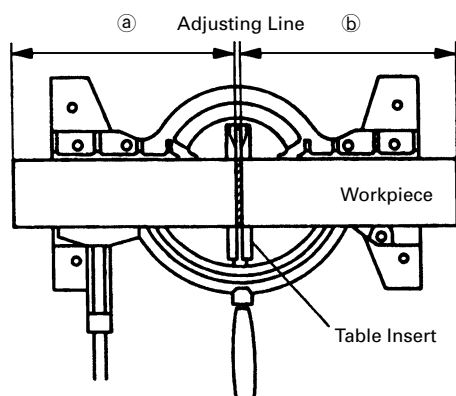

Fig. 15
- (1) As shown in Fig. 15 the width of the saw blade is the width of the cut. Therefore, slide the workpiece to the right (viewed from the operator's position) when length ⑥ is desired, or to the left when length ⑤ is desired.
- (2) Once the saw blade reaches maximum speed, push the handle down carefully until the saw blade approaches the workpiece.
- (3) Once the saw blade contacts the workpiece, push the handle down gradually to cut into the workpiece.
- (4) After cutting the workpiece to the desired depth, turn the power tool OFF and let the saw blade stop completely before raising the handle from the workpiece to return it to the full retract position.